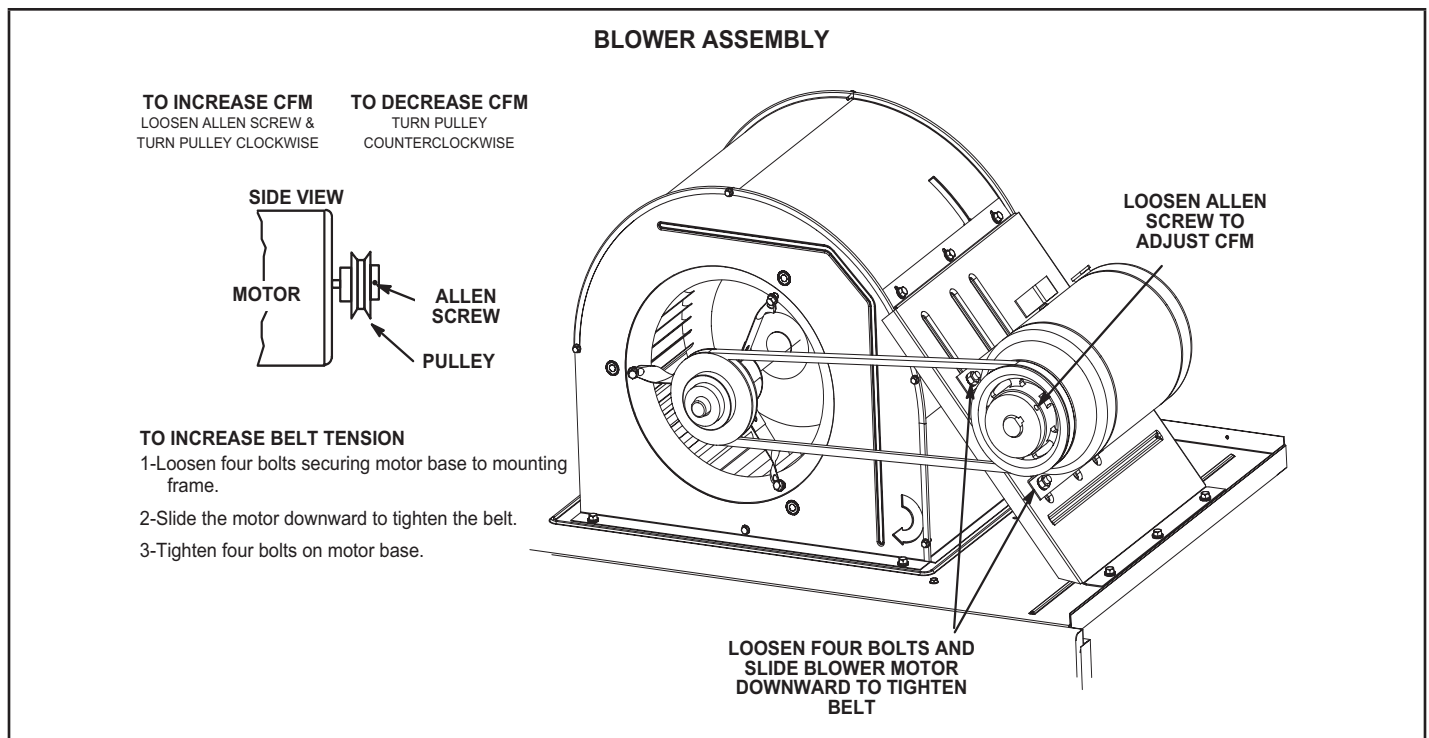

FIGURE 15
- 5 - The blower RPM can be adjusted at the motor pulley. Loosen Allen screw and turn adjustable pulley clockwise to increase CFM. Turn counterclockwise to decrease CFM. See FIGURE 15. Do not exceed minimum and maximum number of pulley turns as shown in TABLE 4.
- 1 - Loosen four bolts securing motor base to mounting frame. See FIGURE 15.